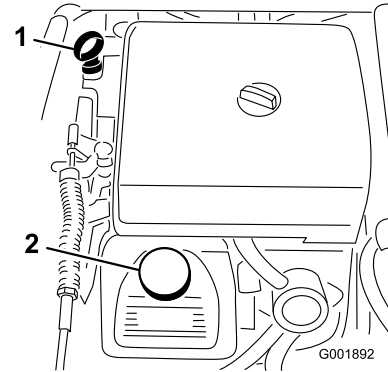

Figure 48
2. Remove the dipstick and wipe it with a clean rag (Figure 48). Insert the dipstick into the tube and make sure it is seated fully. Remove the dipstick and check the oil level.
3. If the oil level is low, remove the filler cap from the valve cover (Figure 48) and pour oil into the opening until the oil level is up to the Full mark on the dipstick. Add the oil slowly and check the level often during this process. Do not overfill.
8. Slowly pour approximately 80% of the specified amount of oil into the oil filler tube (Figure 48).